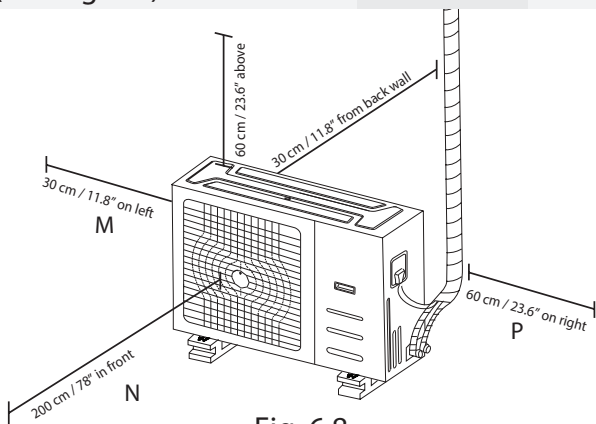

Fig. 6.8
NOTE: The minimum distance between the outdoor unit and walls described in the installation guide does not apply to airtight rooms. Be sure to keep the unit unobstructed in at least two of the three directions (M, N, P) (See Fig. 6.8)
- If the drain joint comes with a rubber seal (see Fig. 6.8 - A), do the following: